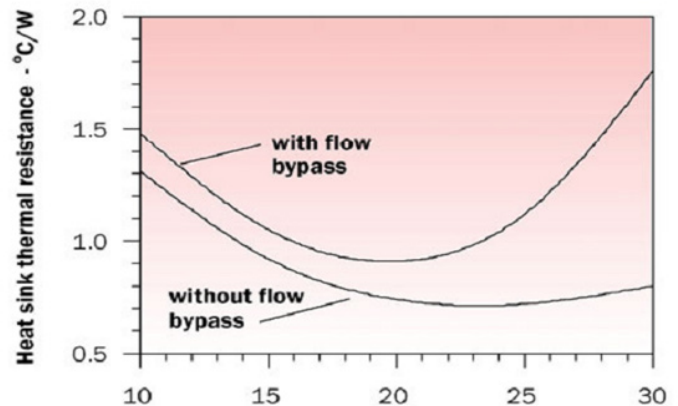

Figure 5: Fin density builds on heat sinks vs thermal resistance
- Increasing the heat transfer surface using fins on the heat sink, however, beware that fins can reduce the air flow pressure. The thermal designer needs to select optimized density pins of heat sink, see Figure 5.